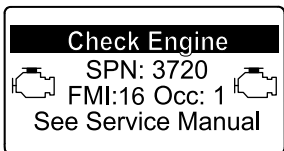

Figure 35
- Engine warning SPN 3720, FMI 16 (Figure 35)